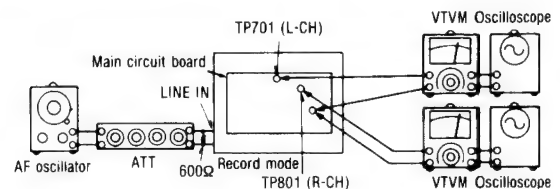

Fig. 22
1. Make connections as shown (See fig. 22).